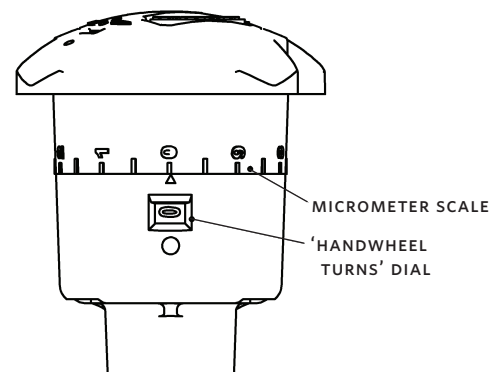
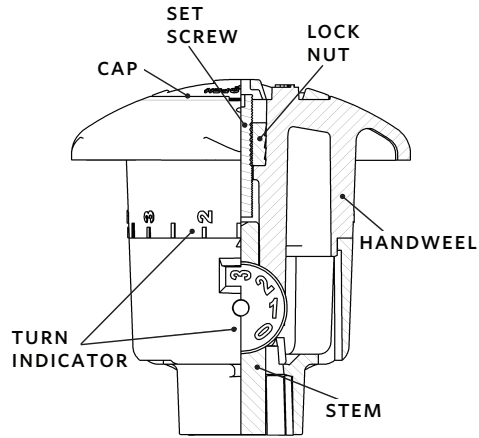

FIG. 3: CBV setting of 0.0 indicates that the valve is closed. Both the handwheel turns dial and the micrometer scale indicate a valve position reading of 0.
FIG. 6
- **'Handwheel turns' dial:** This dial is printed on the outer surface of a gearing mechanism located inside the lower half of the handle assembly (**FIG. 6**). Each complete 360° revolution of the handwheel is visible through a display window and is scaled 0 - 5 to indicate the valve position in terms of the number of full turns. (**FIG. 3**)
- **Micrometer scale:** This scale is marked 0 - 9 and is located on the upper half of the handle assembly. Each mark represents $\frac{1}{10}$ th of a full, 360° turn of opening when lined up with an arrowhead symbol, located above the handwheel turns display window. (**FIG. 3**)
17 Insert a 2.5 mm (or 3/32") Allen key through the hole provided in the valve's handle cap. (FIG. 6)